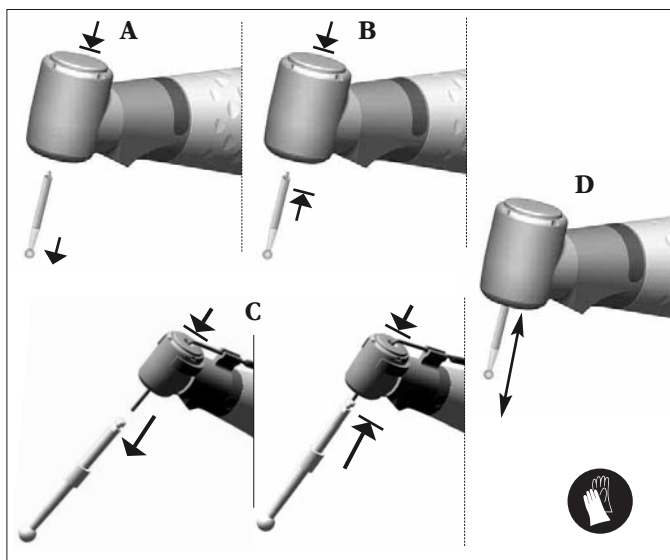

fig. 2
- Disconnect the attachment from the drive motor and remove the bur **fig. 2**.